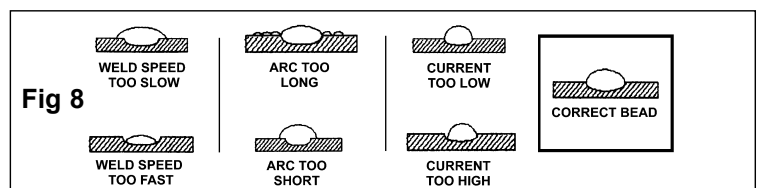

Fig 8
- 5.5.6 At the end of the weld bead, move the tip of the electrode backwards in order to fill the weld crater. Quickly lift the electrode from the weld pool to extinguish the arc. Refer to fig.8 for a welding fault analysis.